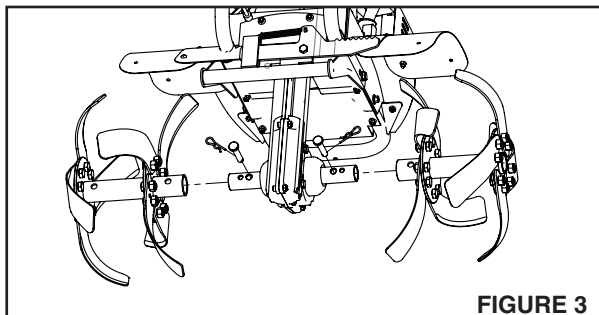

FIGURE 3
- c. Assemble tines to unit. Sharp edges of tines will be away from the operator at top or face down at front of machine. Use (2) 10 x 45 shaft pins plus (2) 2 x 46 B pins. **SEE FIGURE 3.**